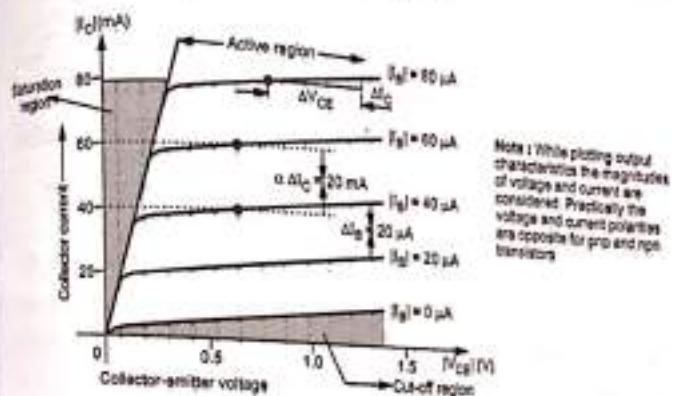

Fig. Q.12.1 Output characteristics of the transistor in CE configuration
1. This characteristic shows the relation between the collector current  $I_C$  and collector voltage  $V_{CE}$  for various fixed values of  $I_B$ . This characteristic is often called collector characteristics. A typical family of output characteristics for an n-p-n transistor in CE configuration is shown in Fig. Q.12.1.